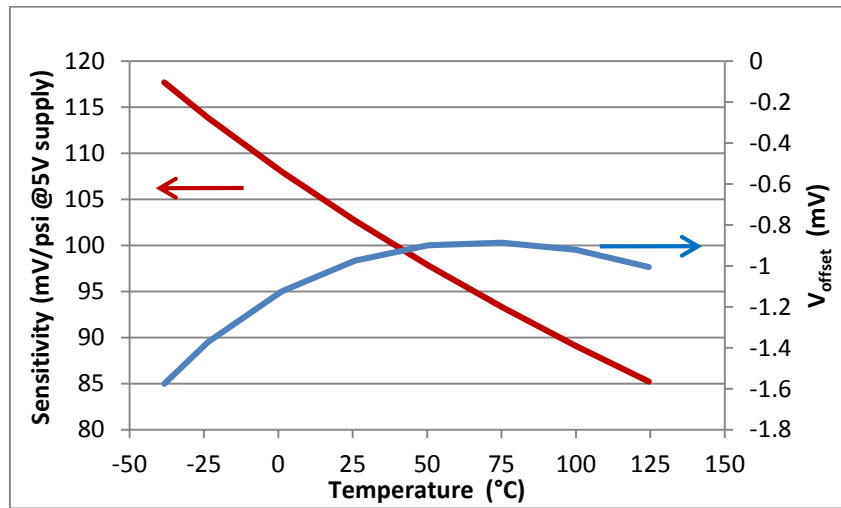

Figure 6: Temperature dependence of offset voltage and sensitivity of a typical SM5420 sensor
An ideal pressure sensor would have both  $V_{ZERO}$  and  $S$  be independent of temperature, however, a simple piezoresistive pressure sensor such as the SM5420 has both a zero offset and a sensitivity that are temperature dependent. This dependence is non-linear, as is shown in Figure 6 for a typical SM5420 operated with a constant 5 V supply voltage.
**Temperature compensation:** During the calibration process, data points at several known values of temperature and pressure are taken, with which the curves in Figure 6 can be approximated. The three systems of equations that are included in the Evaluation Kit software are two-point linear approximation, best fit straight line and second order polynomial. Each of these approaches to temperature compensation provides a different level of accuracy for the approximation of the offset and sensitivity curves. For the purposes of this section, the  $V_{\text{OFFSET}}$  curve of the Figure 6 is shown as a series of 8 data points in Figure 7, to which several approximation lines have been added. Though not shown in this example, a similar set of curves is developed for the various approximations to the sensitivity curve.